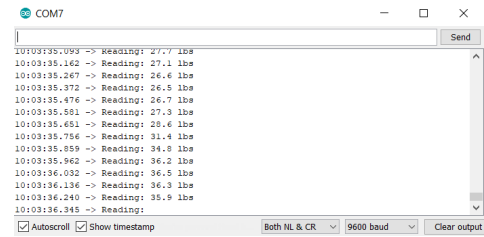

Fig. 6. Load Cell Sample Output
- 4) Compile and upload the code to STM32. To test, run your favorite serial monitor (e.g., Teraterm or the Arduino IDE builtin serial monitor, Tools → Serial Monitor). See Fig. 6 for sample output.